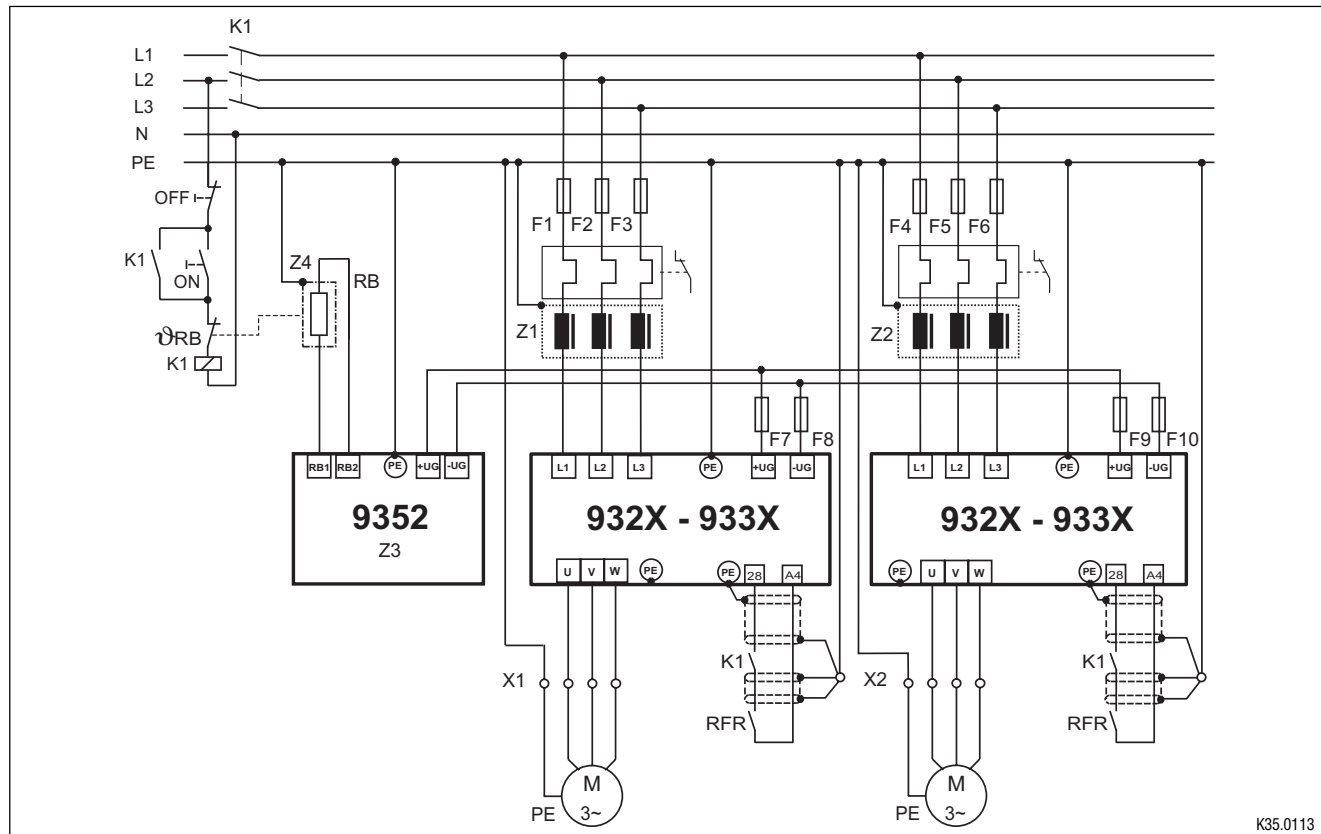

Fig. 4-9 Decentralized supply for DC-bus connection of several drives`
- Fig. 4-9, “Decentralized supply for DC-bus connection of several drives”. (4-18)